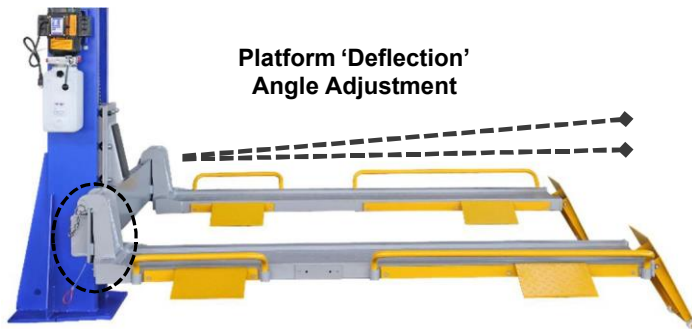

Fig. 14
- ❖ The lift come with the ability to **adjust the platform 'deflection' angle**, based on the type & weight of vehicle(s) being lifted for storage and/or service, along with the position of the vehicle on the platforms. To adjust the platforms deflection angle, use one or a combination of the **3ea different thickness of platform shim plates**, included with Lift. **Fig. 14.**